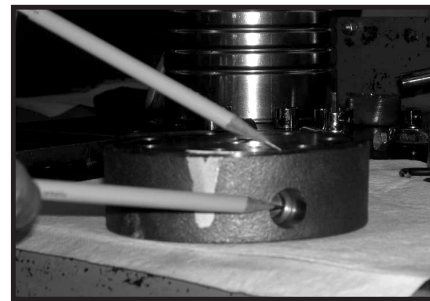

Figure 8
**NOTE:** The insert and if included the orifice plug in the end cover (2) must not be removed as they are serviced as an integral part of the end cover.
6. Thoroughly wash end cover (2) in proper solvent and blow dry. Be sure the end cover valve apertures, including the internal orifice plug, are free of contamination. Inspect end cover for cracks and the bolt head recesses for good bolt head sealing surfaces. Replace end cover as necessary. SEE FIGURE 8.